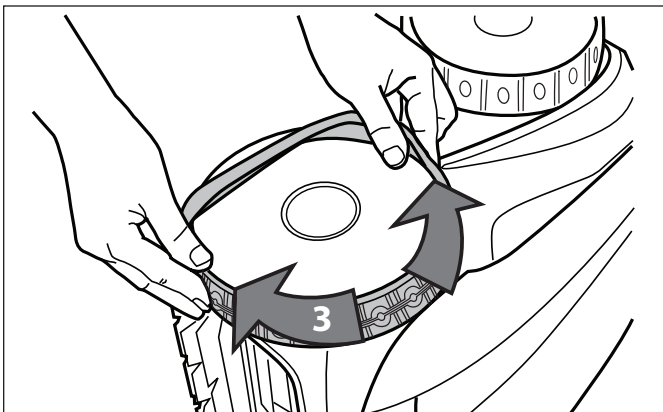

Figure 40. Work the Tire On Around the Wheel
5. Work the tire onto the wheel and verify the rib of the tire is positioned properly within the groove of the wheel. Refer to Figure 40.